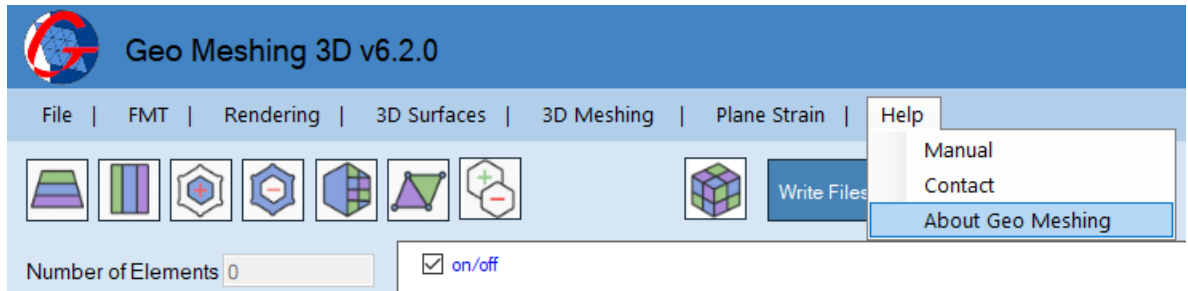

Figure 40: Help Strip Menu – About Geo Meshing.
- **Help Menu, About Geo Meshing:** This option (shown in Figure 40) displays *Geo Meshing v6* information along with the *Geo Meshing v6* code (See section 4.3 for more information).